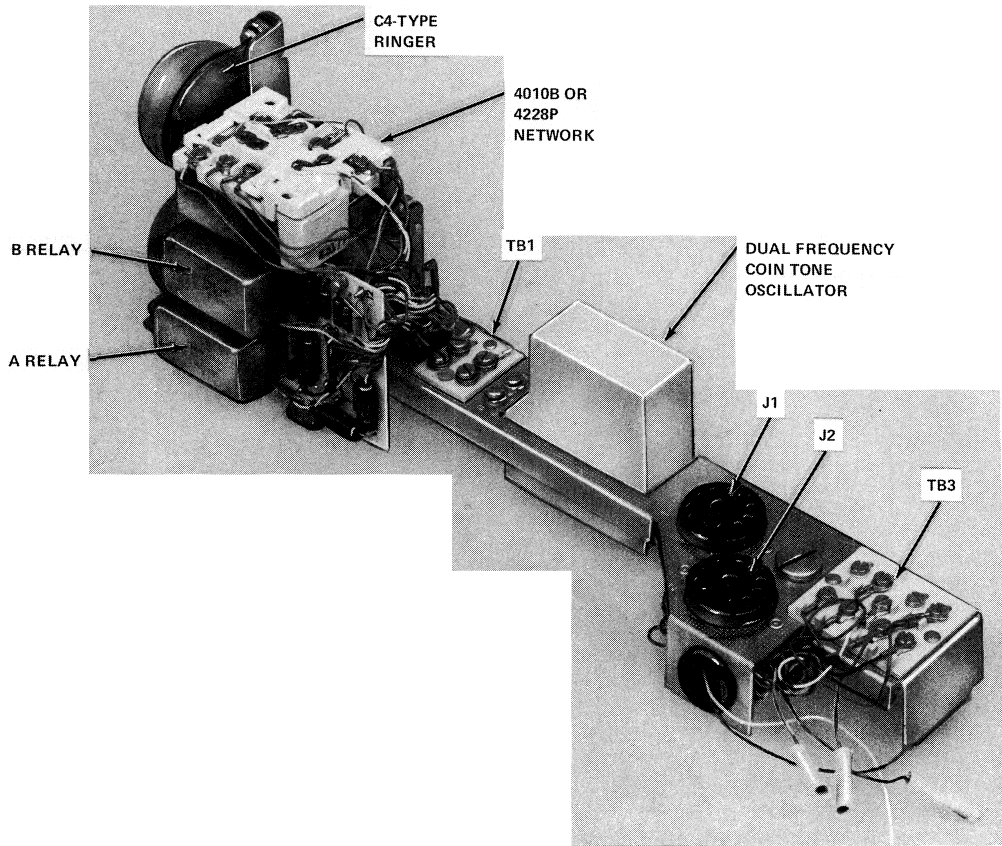

Fig. 6—31A Coin Chassis
- (1) Nickel—1 beep tone
- (2) Dime—2 beep tone
- (3) Pulsing rate—5-8.5 PPS.
D. **Coin Chassis (Fig. 6)**